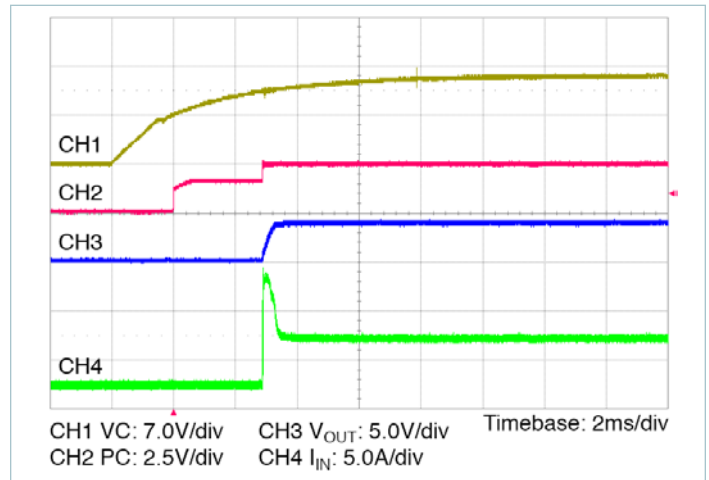

Figure 14 — Start up from application of V_C ; V_{IN} pre-applied $C_{OUT} = 1000\mu\text{F}$
- **Stand-alone operation (VC applied after V_{IN}):** In this case the VTM output will begin to rise upon the application of the VC voltage (See Figure 14). The Adaptive Soft-Start Circuit may vary the output rate of rise in order to limit the inrush current to its maximum level. When starting into high capacitance or a short, the output current will be limited for a maximum of 1200 μ s. After this period, the Adaptive Soft-Start Circuit will time out and the VTM module may shut down. No restart will be attempted until VC is re-applied or PC is toggled. The maximum output capacitance is limited to 1000 μ F in this mode of operation to ensure a successful start.